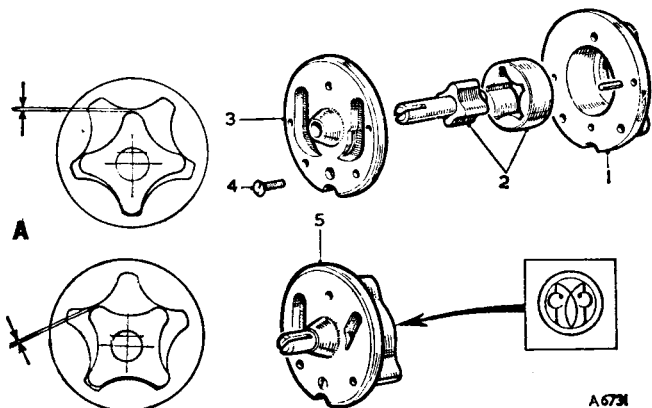

Fig. A.20
7. Install the rotors in the pump body and measure the clearance between the rotor lobes when they are in the position shown in Fig. A.20. If the clearance is in excess of .006 in. (.152 mm.) the rotors must be renewed.